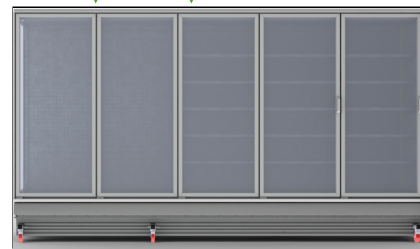
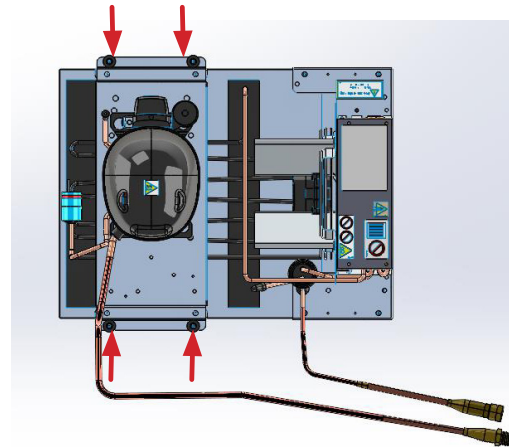

Fig. 24 Reinstall CDU
Fig. 25a Reinstall CDU screws (2 & 3 door MT)
1. Condensing unit can now be placed back on top of the case using a two-person team and drain pan hold points (Fig. 24). Reinstall CDU screws to secure the unit (Fig. 25a & 25b-c).